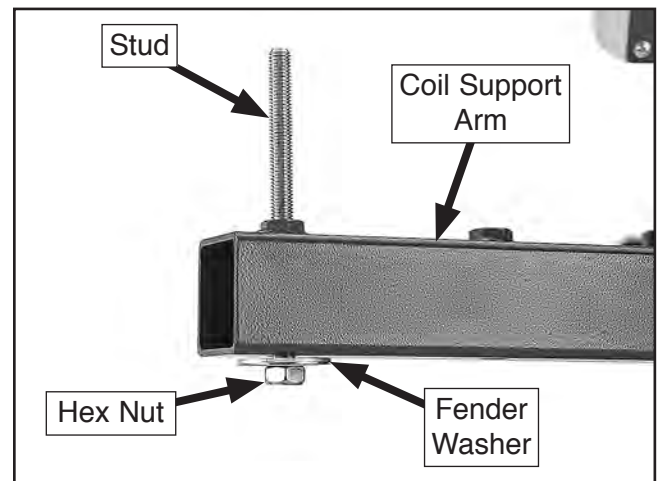

Figure 25. Stud threaded into coil support arm.
7. Thread stud up through bottom of coil support arm (see **Figure 25**).